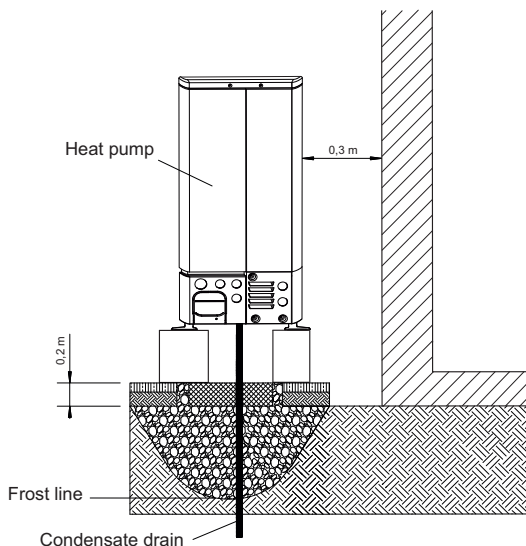
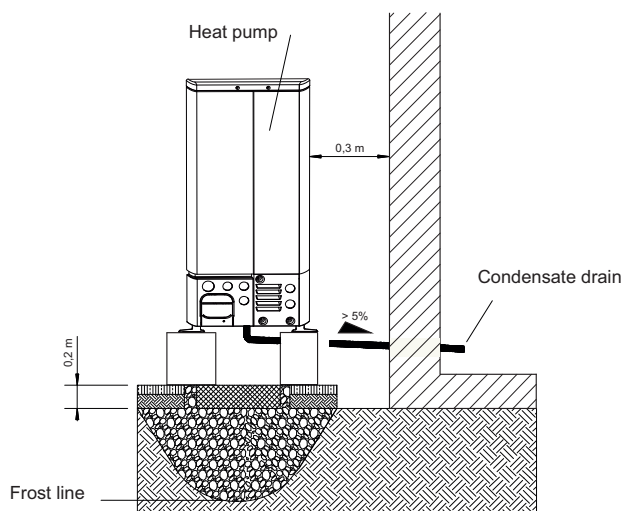

Fig. 4.1
Fig. 4.2
- It is advisable to install the outdoor unit close to a wall, on a foundation separate from the building with a minimum clearance of 0.3 m on the intake side (Fig. 4.1 + Fig. 4.2).
- The minimum clearances (Fig. 4.1) indicated must be adhered to.